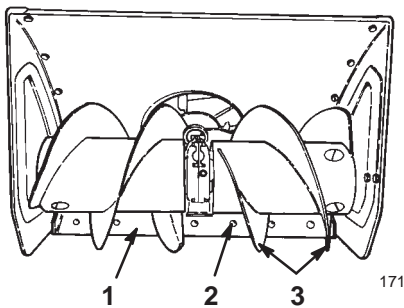

Figure 26
6. Support the **auger blades** so that they are at least 1/8 inch (3 millimeters) off the ground (Fig. 26).
8. To adjust the scraper, loosen the carriage bolts that secure the scraper to the auger housing (Fig. 26), level the scraper, and tighten the carriage bolts.